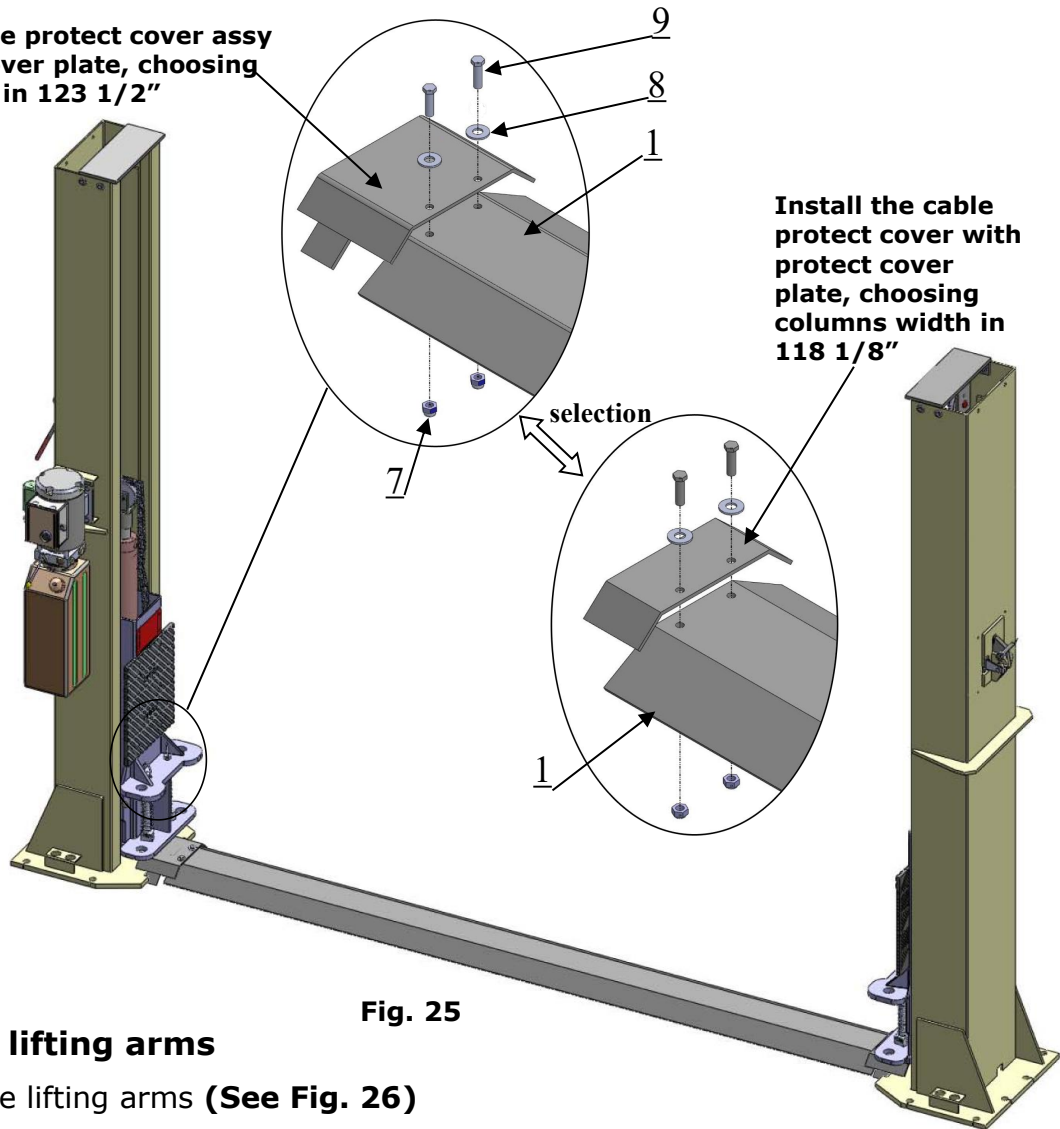

Fig. 25
L. Install protect cover (see Fig.25)